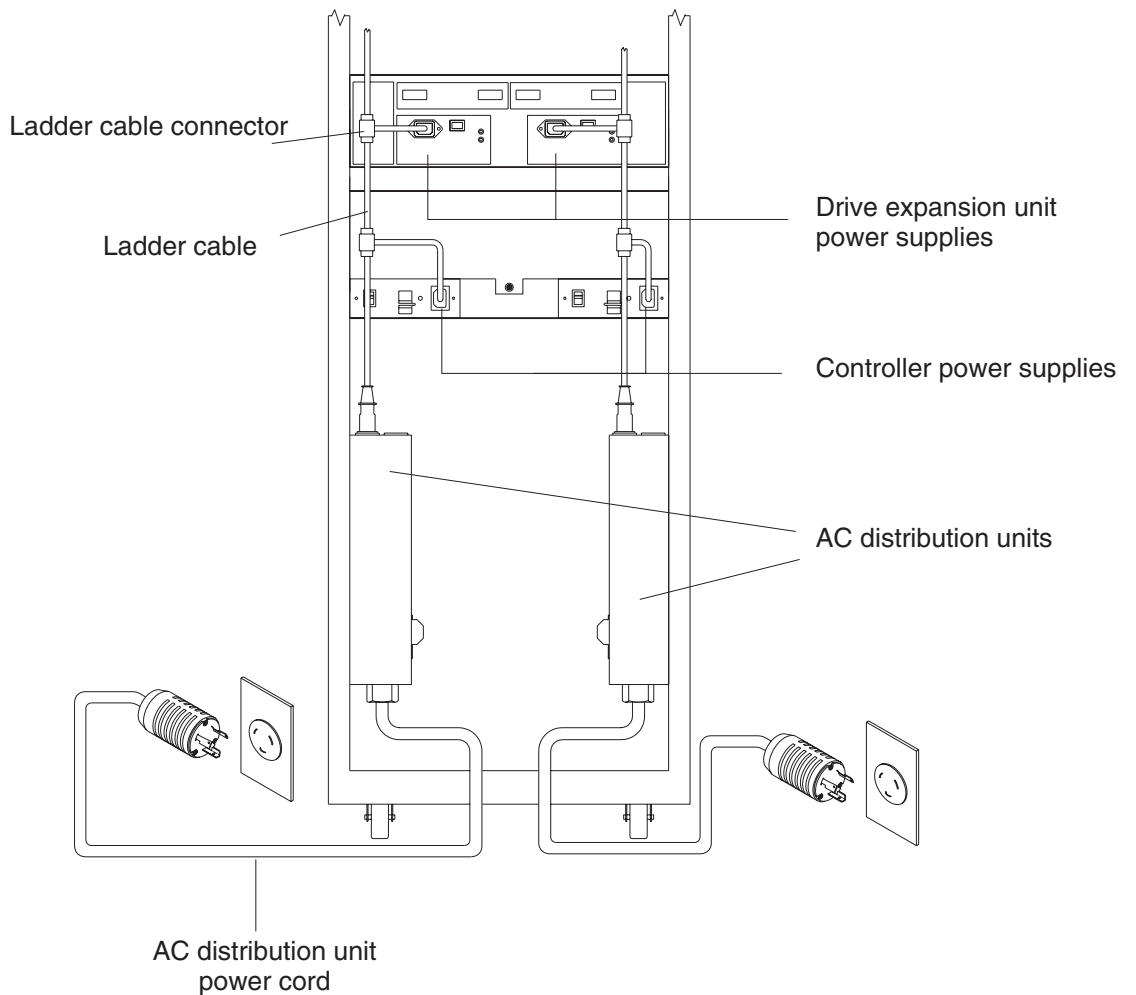

Figure 40. Redundant ac power connections to controllers and storage expansion enclosures
Note: To maintain power redundancy on the DS4300 dual-controller storage server (Model 60U/60X), plug the storage server's right and the left power supplies into two independent external power circuits through ac distribution units inside a rack cabinet or directly into external receptacles. Similarly, the right and left power supplies of the DS4000 drive enclosures attached to the DS4300 storage server should be plugged into the same two independent external power circuits as the DS4300 storage server. See Figure 40 on page 42 for an example of redundant power cabling.
- **DS4300 models 60U/60X only:** To maintain power redundancy, plug the DS4300 storage server’s right and left power supplies into two independent external power circuits through ac distribution units inside a rack cabinet or directly into external receptacles. Similarly, the right and left power supplies of the DS4000 drive enclosures attached to the DS4300 storage server should be plugged into the same two independent external power circuits as the DS4300 storage server. This ensures that the DS4300 storage server and all its attached storage expansion enclosures will have power if only one power circuit is available. In addition, having all the right or all the left power supplies plug into the same power circuit will enable the components in the storage subsystem to power on simultaneously during an unattended restoration of power. See Figure 40 on page 42 for an example of redundant power connections.